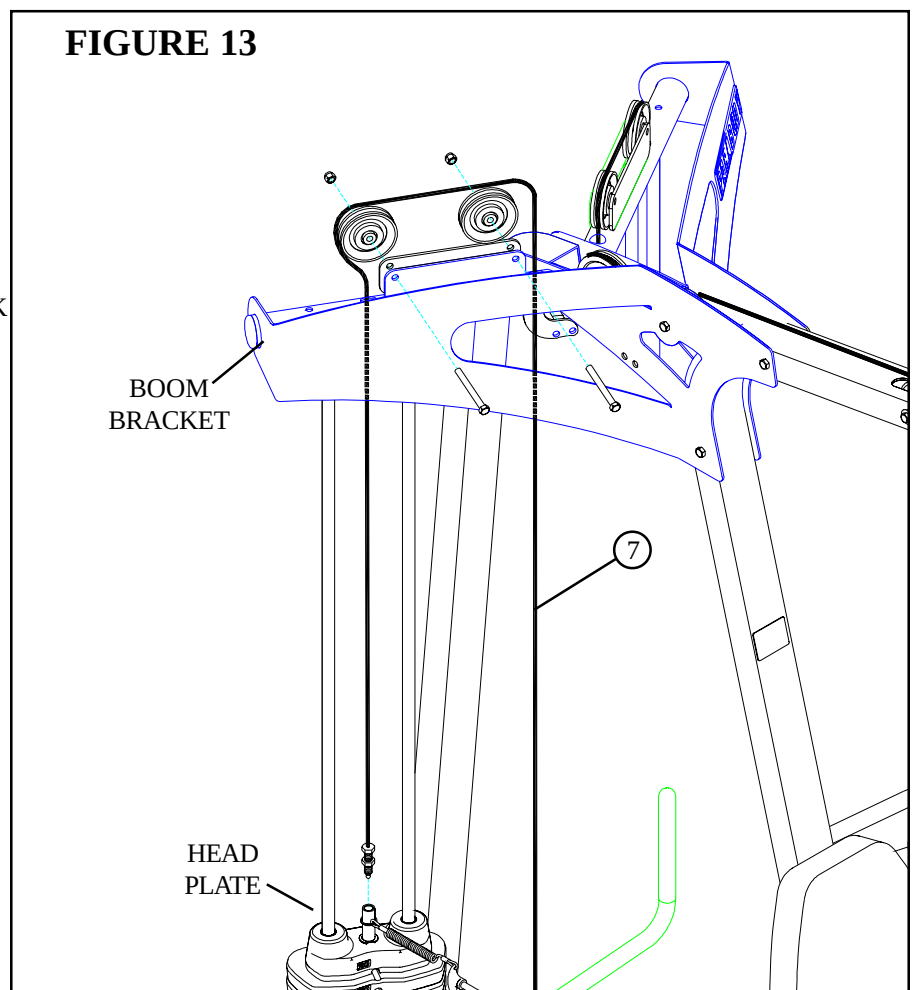

FIGURE 13
- Route the new PRESS STACK CABLE (7) thru the PEC STATION as shown. **(NOTE: Remove pulleys for ease of installation.)** Slide GUIDE RODS up just enough to get the cable end thru. Push GUIDE RODS down when finished.
- Route the new PRESS STACK CABLE (7) around the pulleys in the BOOM BRACKET using the existing bolts as shown in FIGURE 13. **(NOTE: Make sure the cable runs in the grooves of the pulleys.)**
- Screw the threaded end of the PRESS STACK CABLE (7) into the end of the HEAD PLATE. See FIGURE 13.